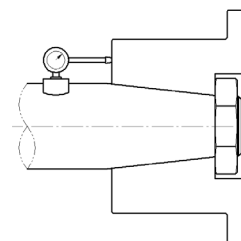

Figure 2
5. Refit the hub and draw up the shaft to the correct axial position indicated by the dial gauge. The hub may have to be heated to achieve the required interference. See Figure 2. Note that the hub face may not be flush with the shaft end when taper bores are used.